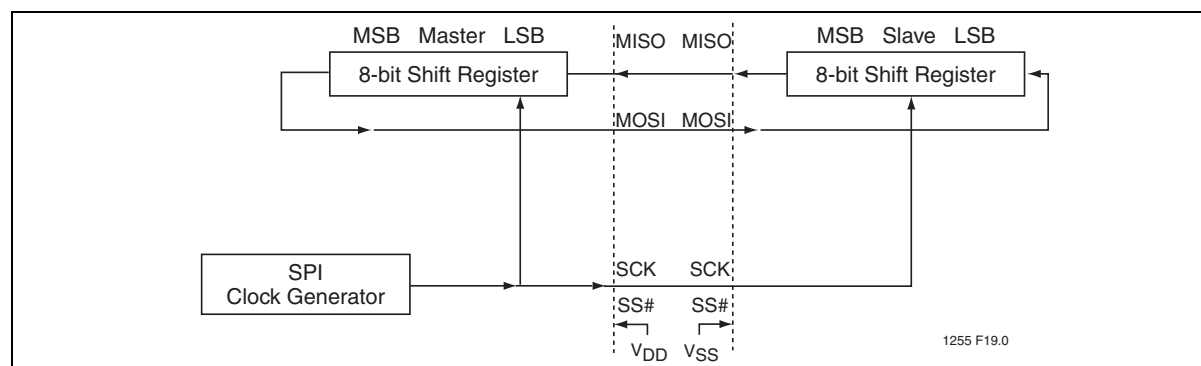

Figure 20: SPI Master-slave Interconnection
Figure 20 shows the correspondence between master and slave SPI devices. The SCK pin is the clock output and input for the master and slave modes, respectively. The SPI clock generator will start following a write to the master devices SPI data register. The written data is then shifted out of the MOSI pin on the master device into the MOSI pin of the slave device. Following a complete transmission of one byte of data, the SPI clock generator is stopped and the SPIF flag is set. An SPI interrupt request will be generated if the SPI Interrupt Enable bit (SPIE) and the Serial Port Interrupt Enable bit (ES) are both set.